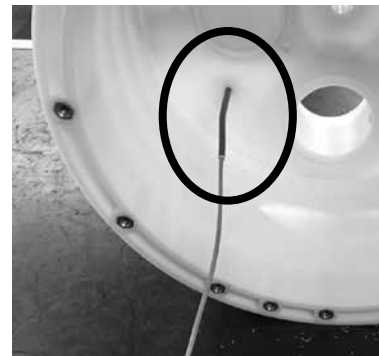

Figure 16
2. Insert the bare end of the 8 AWG wire through the bonding adapter and into the front of the jet housing (See Figure 16).